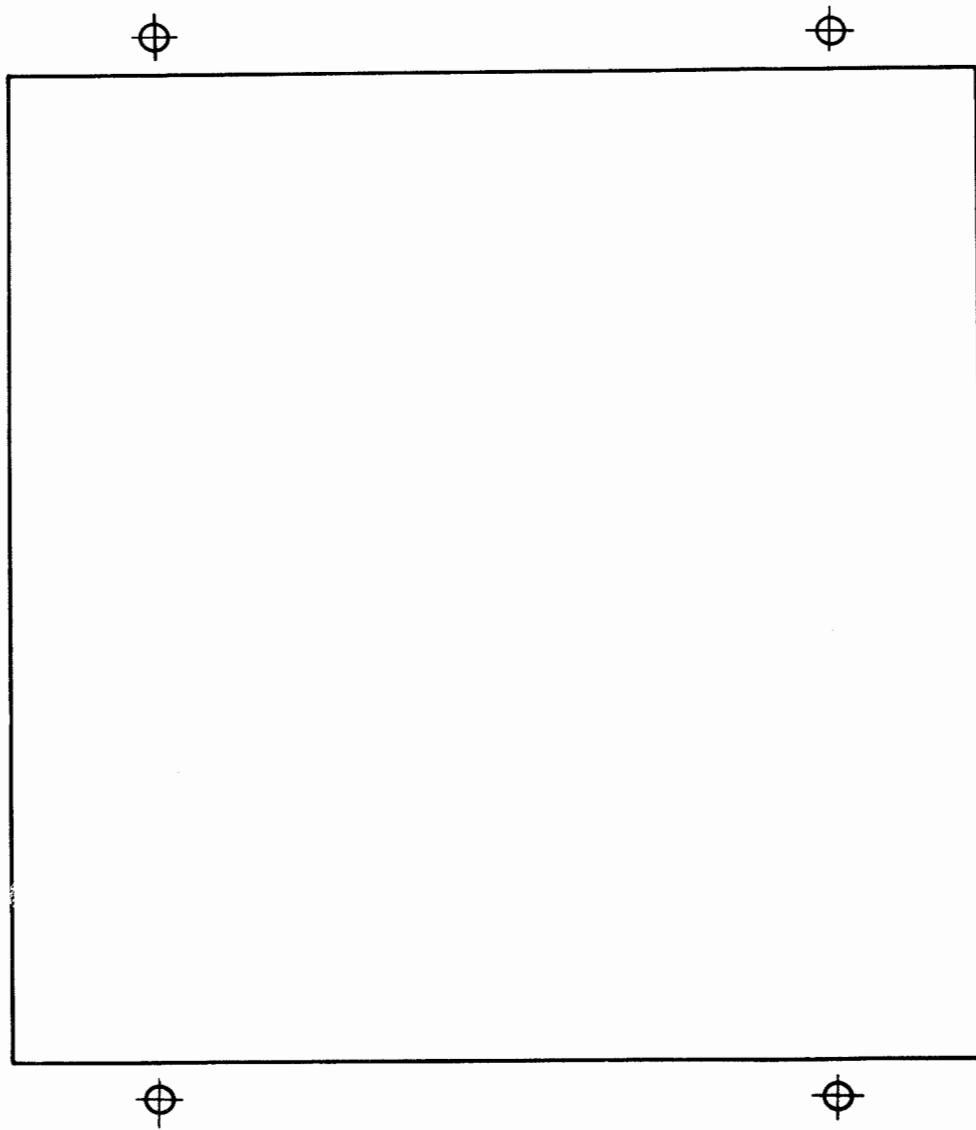
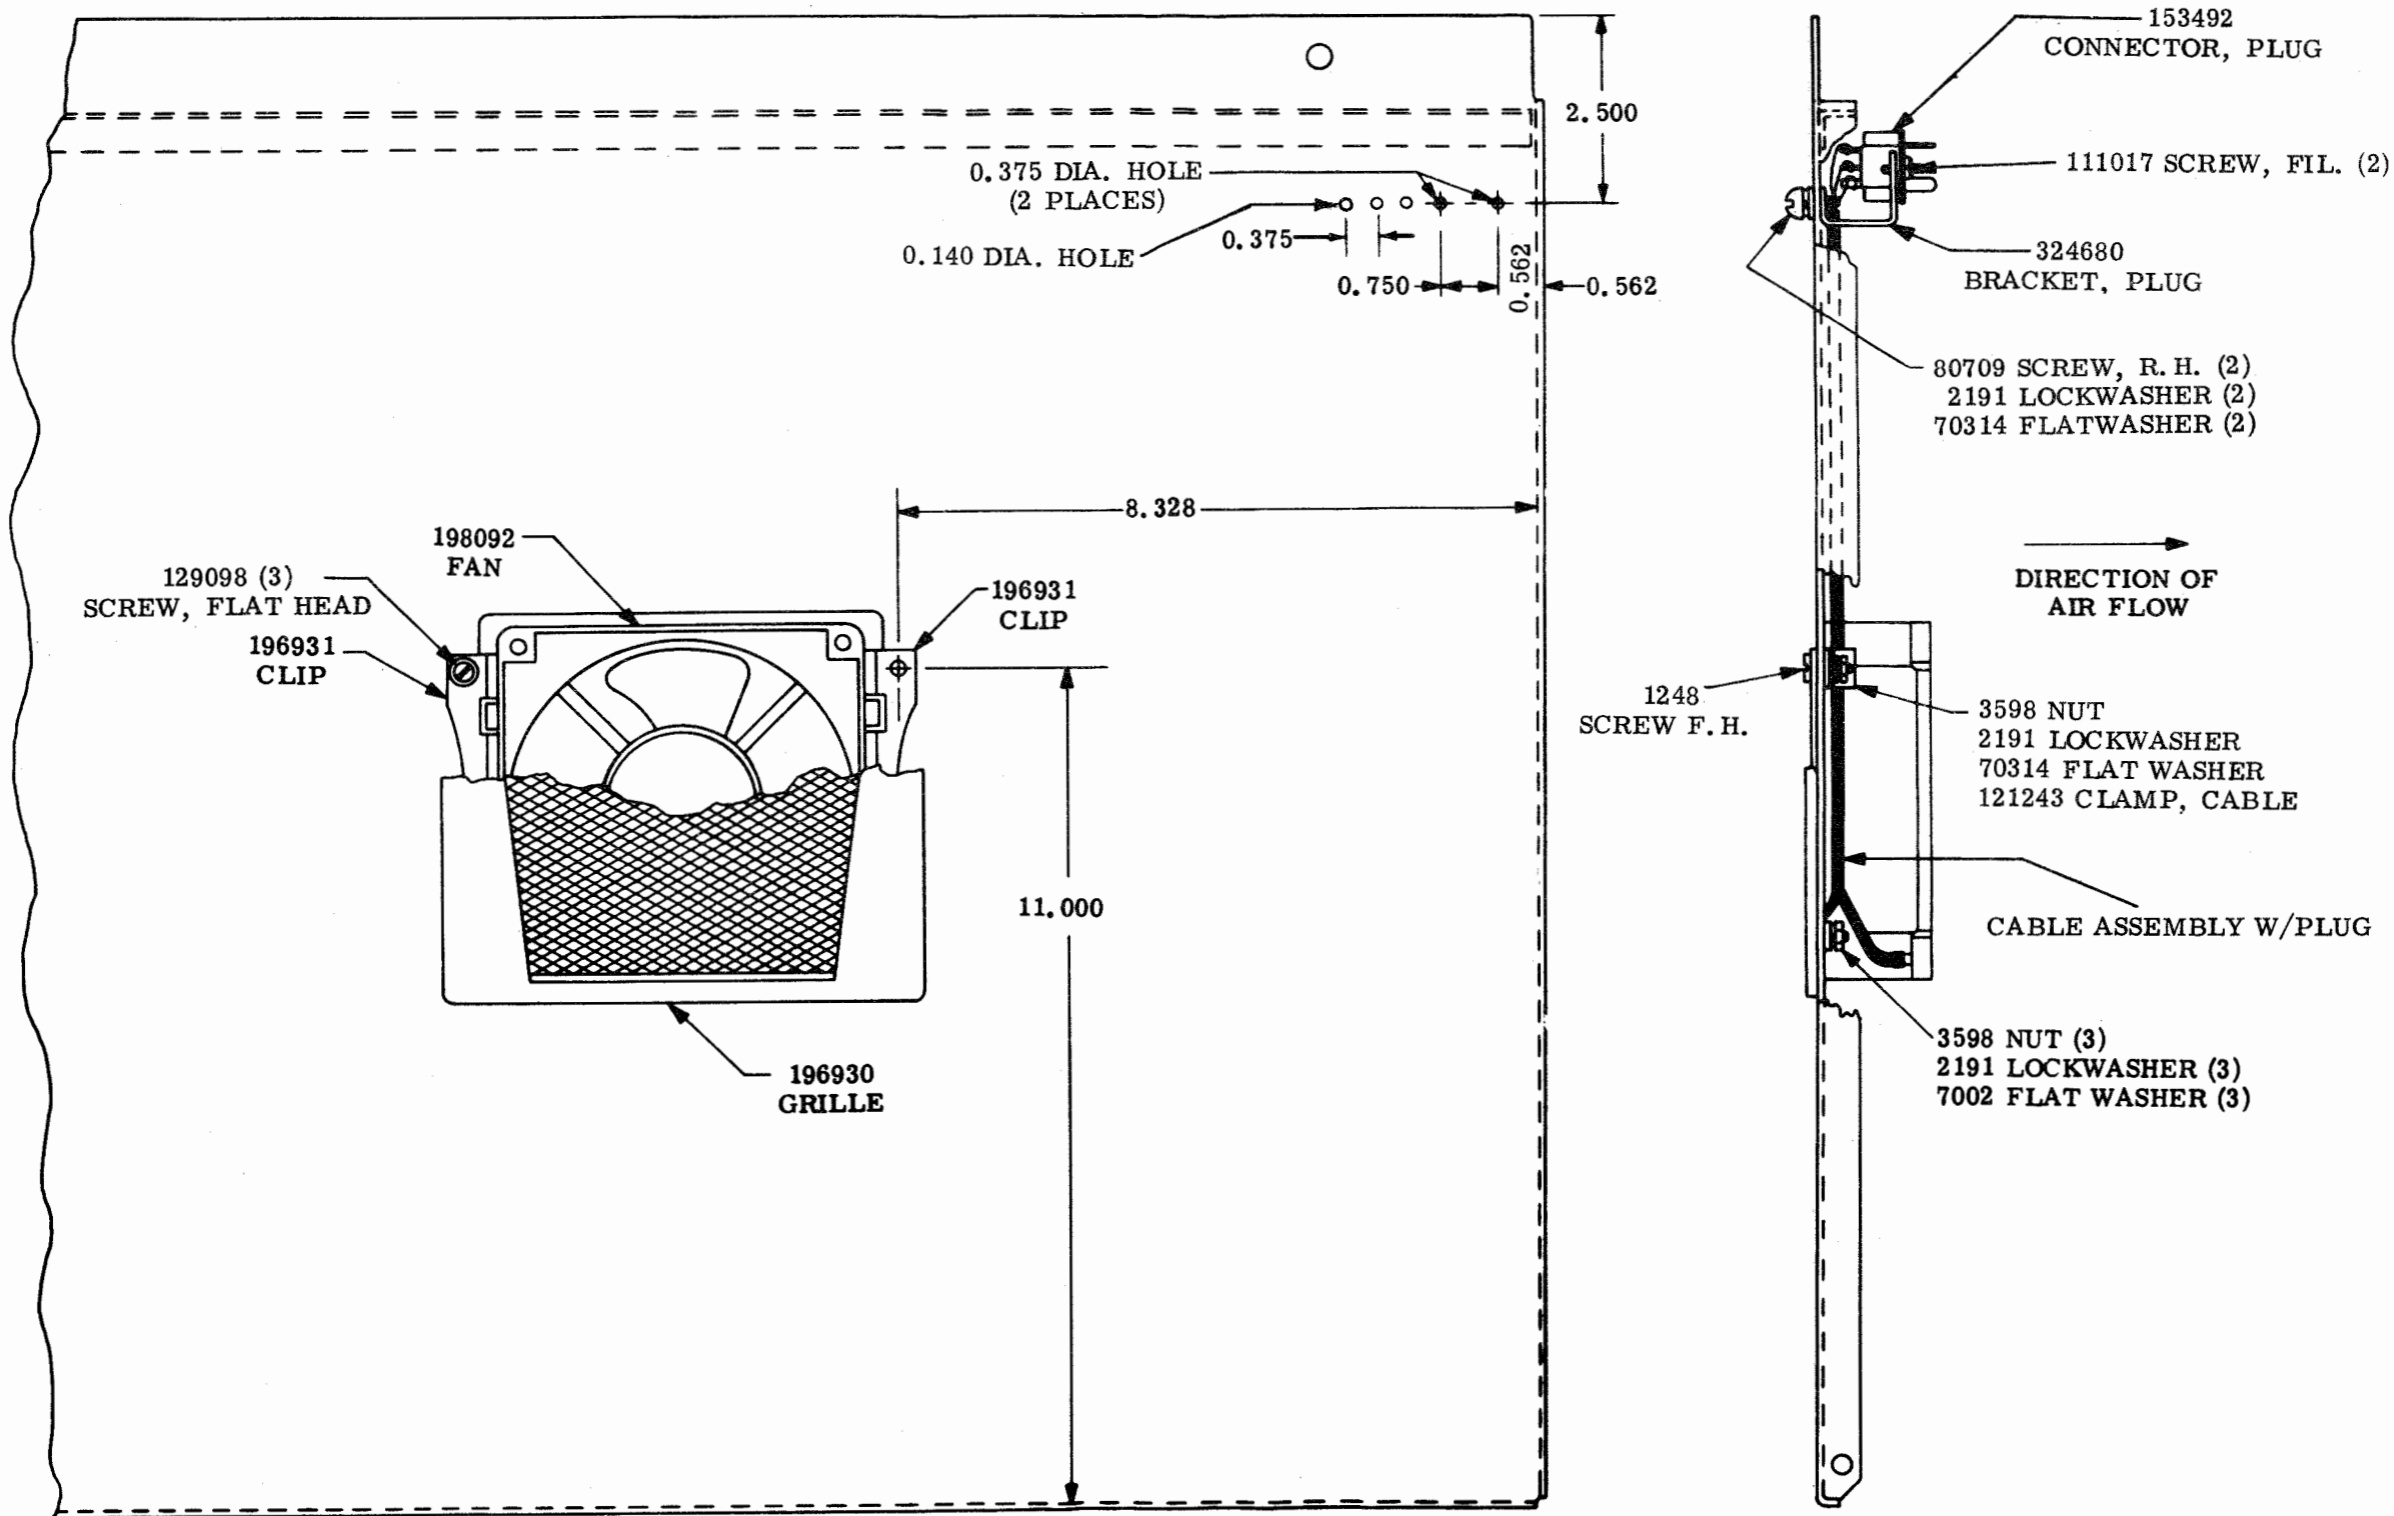

Figure 1 - Template for Fan Modification Kit
Figure 2 - 324677 Fan Modification Kit
3.01 It is necessary to cut a rectangular opening in the lower compartment cabinet door. (Installation will be facilitated if the door is removed.) Use Figure 1 as a template, and Figure 2 for the locating dimensions, for the rectangular opening. (Perform the work on the back side of the door.) Align the dimensions with the inside edges of the door.
3.04 Drill or punch two 0.375 inch diameter holes (refer to Figure 2 for locating dimensions) to mount the 324680 plug bracket. Remove bumper and add a 0.140 inch diameter hole 0.375 inch to the left of the two holes used to mount the bumper. Relocate the bumper. (For 0.140 inch diameter hole, use #28 drill.)
- (a) Attach the spring steel mounting clips (supplied with the fan) to the door as shown in Figure 2, using the 1248 flat head screw, 2191 lockwasher, 7002 flat washer, 121243 cable clamp, and a 3598 nut in the upper right hole (as viewed from the front).
- (c) Install the 324860 plug bracket as shown in Figure 2, using the 80709 round head screws, 2191 lockwashers, and 7002 flat washers.
- (e) Route the 326760 cable assembly through the 121243 cable clamp. (Refer to Figure 2.)